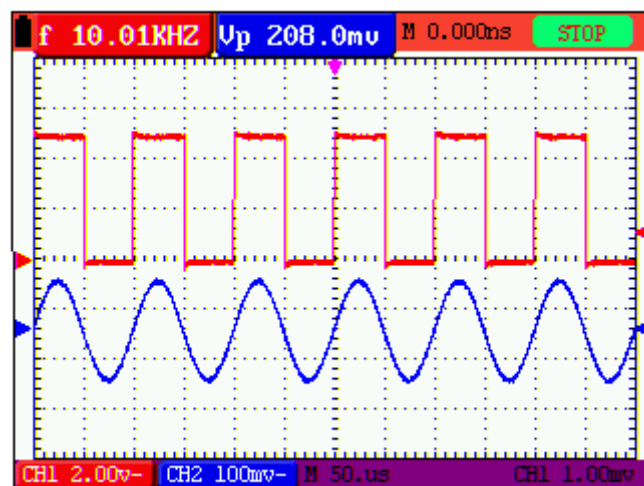

Figure 12: Freezing the Screen
2. Press the **RUN/STOP** key again to resume normal mode. Refer to Fig. 12: